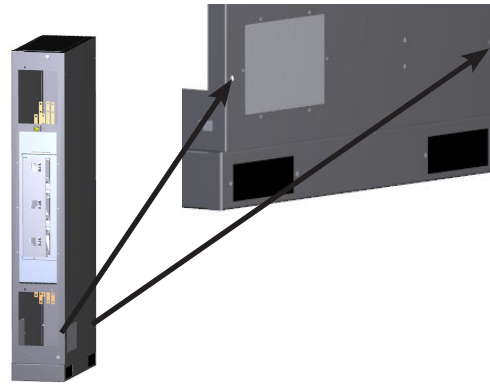

Figure 12-5 - 431M Lower Attach Points - Detail
- Four mounting bolt holes on the right side to secure the unit to the left side of the UPS. See Figure 12-5.